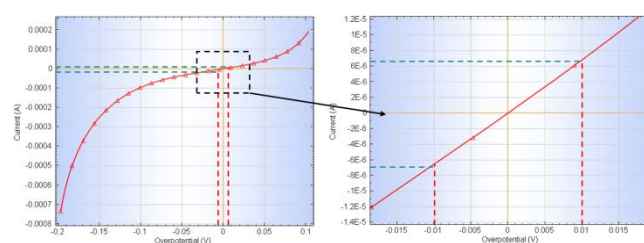

Figure 1 – Example of a linear i-V response which fulfils the linearity condition
- **Linearity:** the applied AC amplitude must be small enough so that the response of the cell can be assumed to be linear, in first approximation, but still large enough to measure a response. (see Figure 1).